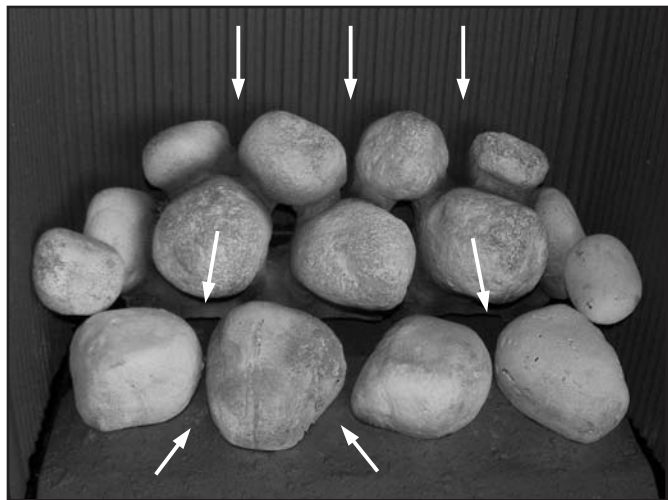

Figure 47: Rock Placement of Seven Small Rocks.
5. Addition the seven (7) small rocks. These can be added in some fashion like what's shown in Figures 47 & 48 with three (3) on the top row with the larger one in the center and two (2) smaller ones on either side.